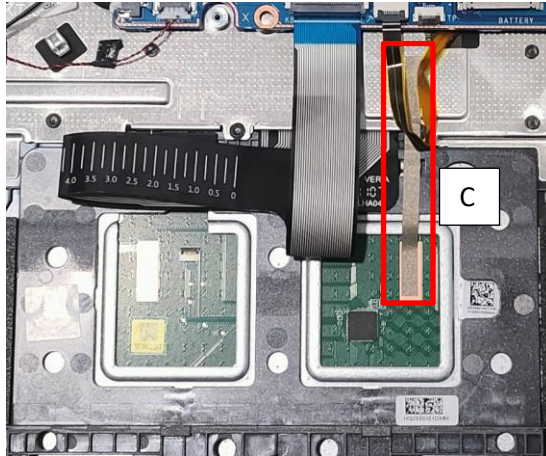

Figure 3-12. Touchpad Module Removal
3. Detach the conductive tape (C) from the touchpad module (Figure 3-12).